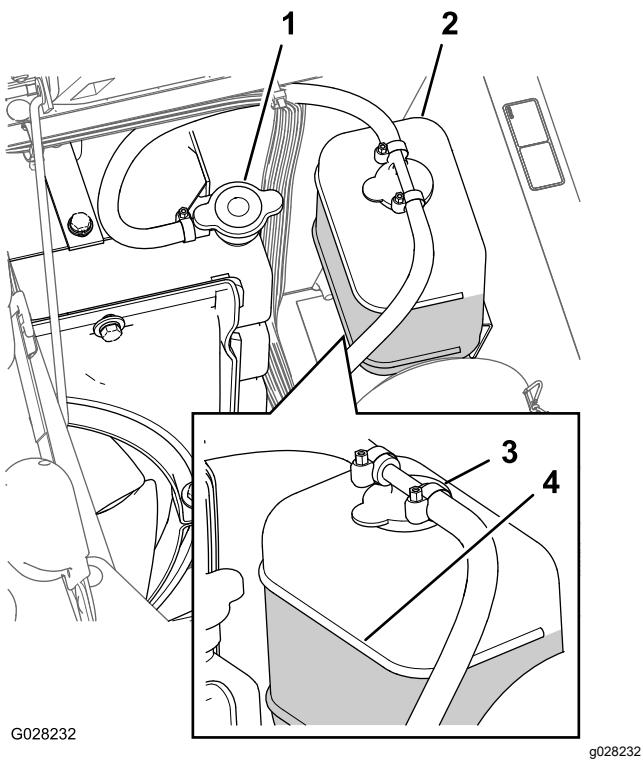

Figure 93
3. Carefully remove the radiator cap and the expansion-tank cap (Figure 93).
Note: The radiator should be filled to the top of the filler neck and the expansion tank filled to the Full mark on the tank (Figure 93).
- If the coolant level is low, remove the expansion-tank cap and the radiator cap, and fill the expansion tank to the Full mark and the radiator to the top of the filler neck (Figure 93).
- Install the radiator cap and the expansion-tank cap (Figure 93).
- Wait until the engine is cool, then remove the radiator cap (Figure 93).
- Remove the radiator cap (Figure 93).
8. Start the engine with the cap loose on the radiator (Figure 93).
10. Once the coolant has warmed up, top off the coolant level to the sealing surface of the cap and tighten the cap (Figure 93).
11. Open the expansion-tank cap and fill the tank with coolant to the Cold level (Figure 93).